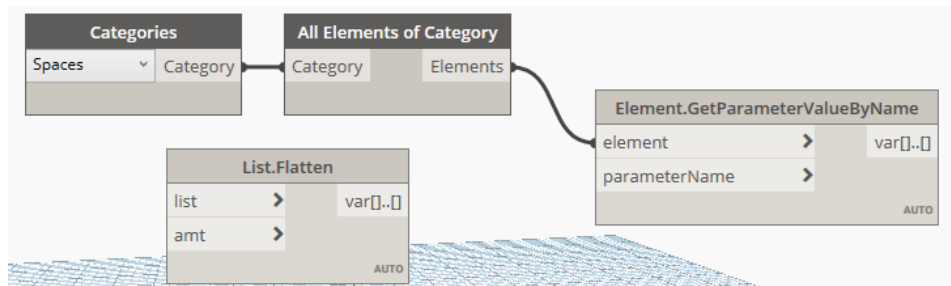

Figure 63
15. Wire the nodes as indicated in Figure 63.